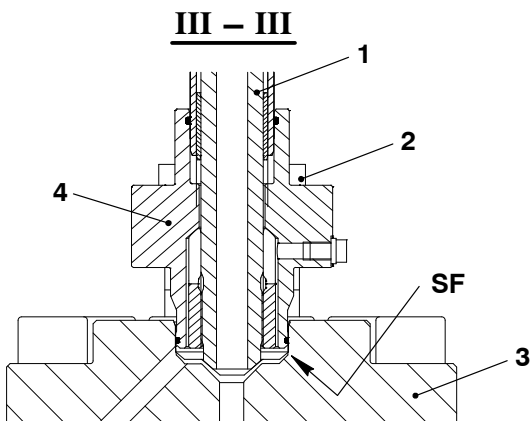

Fig. 9
- 12) Apply protection to the sealing faces (SF) to prevent damage and contamination.
- 13) Remove the four screws (2, Fig. 9) from the flange (4).
- 14) Carefully move the flange (4) away from the fuel pump cover (3).